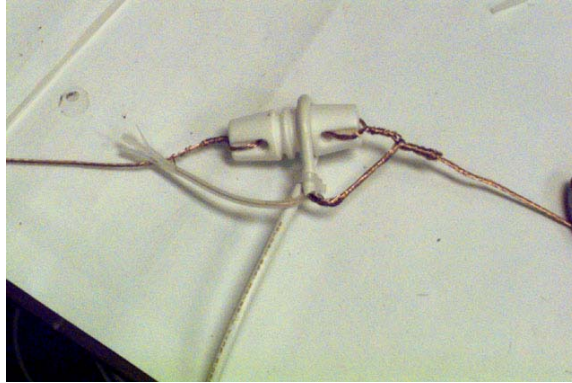

Figure 5.3. Tie wrap the coax over the center insulator. Wrap the center conductor around one side of the dipole and the twisted shielding around the other.
5. ○ Loop the coaxial cable over the center insulator and tie wrap it (Figure 5.3) just below the section of stripped coax using one of the black tie wraps provided in the kit. This will provide strain relief so the solder joints will not break.
6. ○ Wrap the bare center conductor around the end of one of the copper wires attached to the center insulator. Wrap the twisted shielding around the other copper wire attached to the center conductor (see Figures 5.3 and 5.4).